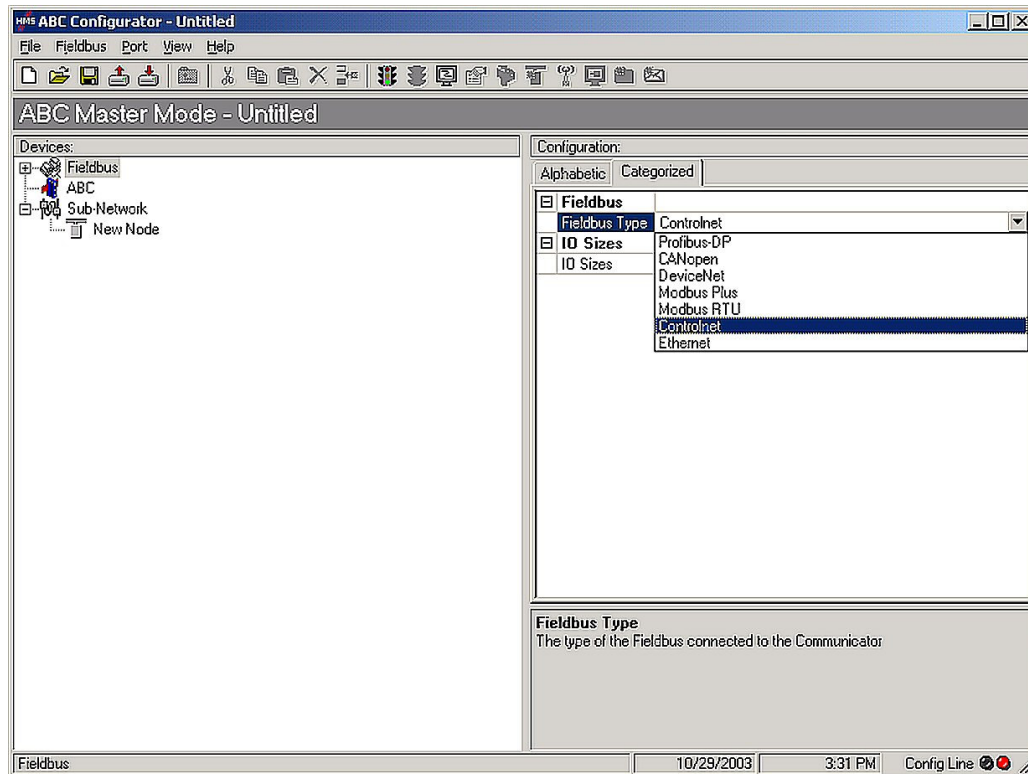

Figure 2
3. The next window to appear will be the main configuration screen. The first step is to select which Fieldbus will be used. In this case select ControlNet as shown in Figure 2.